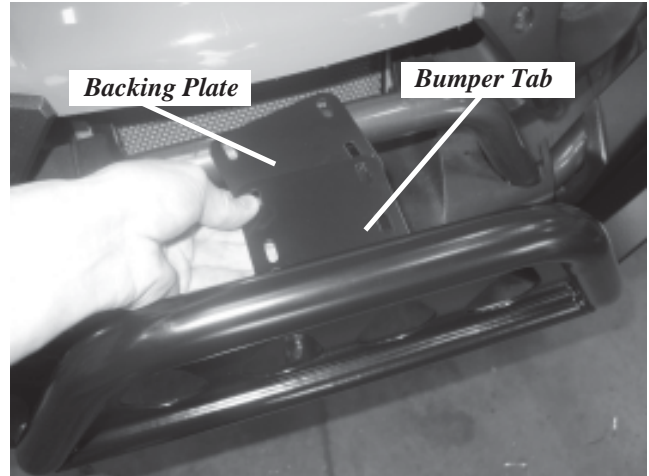

Figure 1
1. Place the backing plate under the bumper tab, Figure 1.